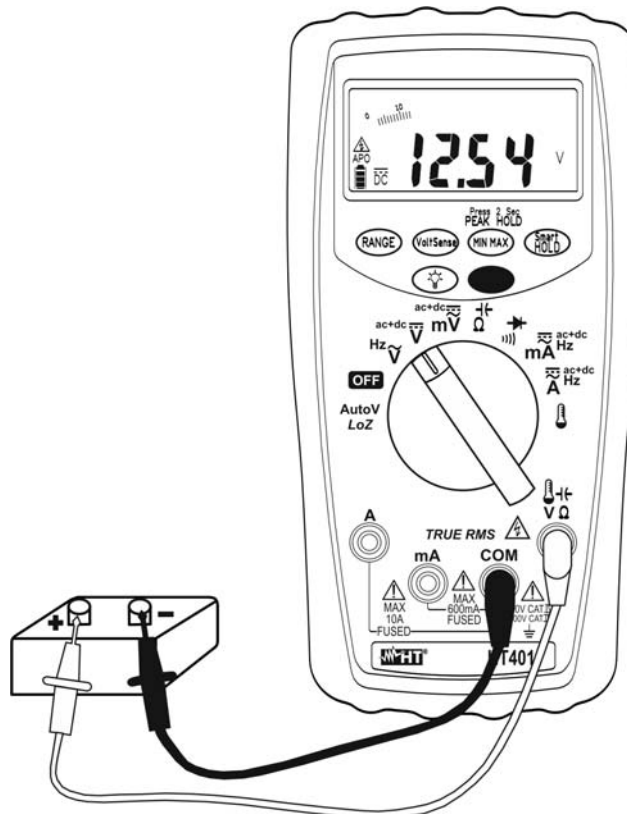

Fig. 2: DC voltage measurement
5. Position the red lead and the black lead respectively in the points with positive and negative potential of the circuit to be measured (see Fig. 2). The voltage value is shown on the display
7. When symbol “-” appears on the instrument’s display, it means that voltage has the opposite direction with respect to the connection in Fig. 2